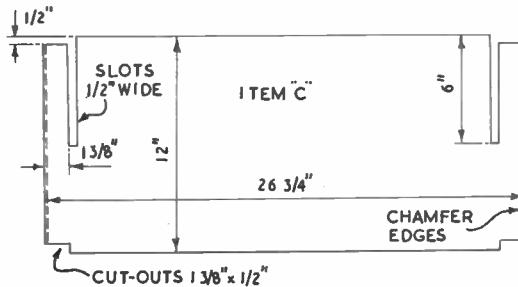

Fig. 2
The shape of the base, item (C), is given in Fig. 2. Cut this out next from $\frac{1}{2}$ in. plywood and again make sure that the slots are true, square and accurately positioned. They must provide a neat sliding fit in conjunction with those in the uprights. The ends of the base are chamfered so that they will butt-joint neatly with the angled fronts of the magazine racks. Do this with a chisel, with the base held in the vice, and glasspaper smooth.
Filter the solution into a flask connected to a condenser (Fig. 2) and distil until most of the liquid has passed over into the conical flask. The distillate is a strangely smelling colourless solution of hypochlorous acid. If you drop in a slip of litmus paper, you will note it is soon bleached.